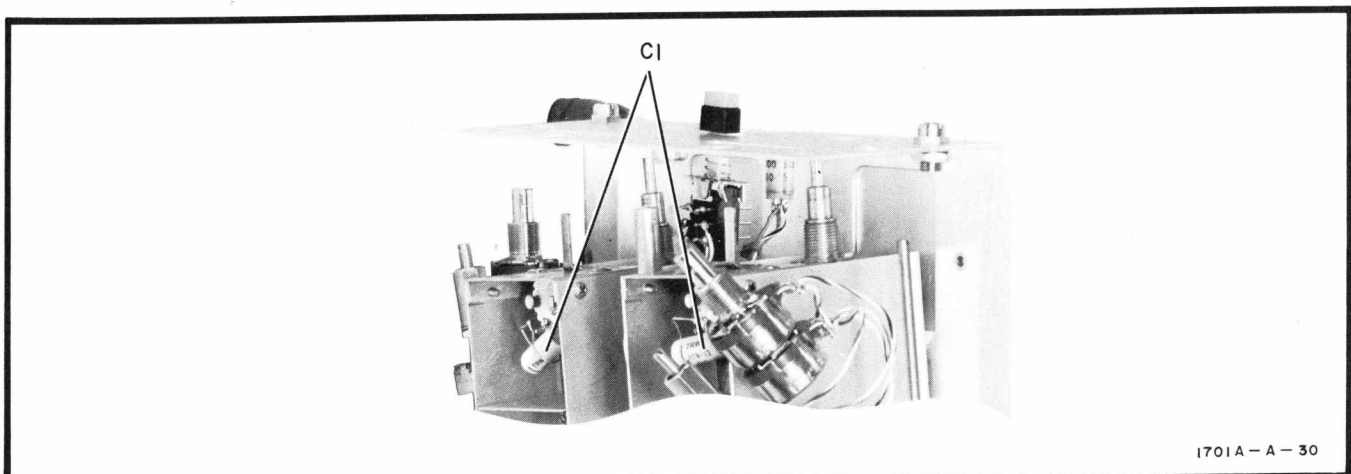

Figure 8-2. Attenuator Removal
e. Unsolder C1 from BNC input connectors (figure 8-2).